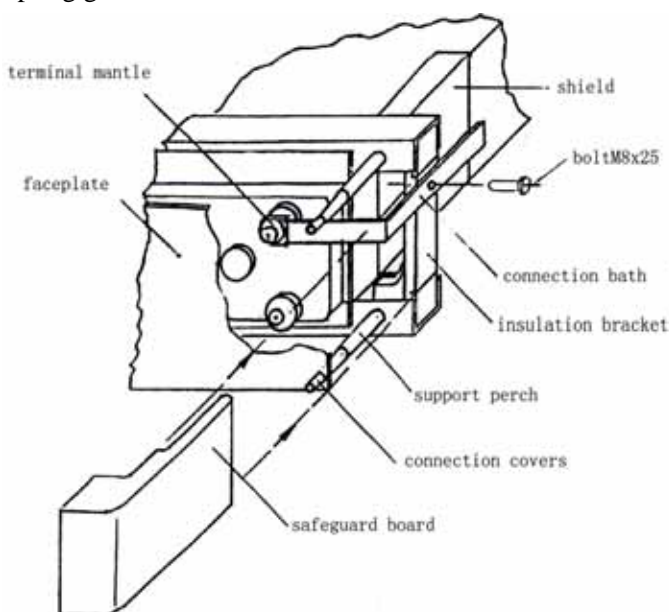

Fig 5
2.7 Installing battery safeguard board and shield (Fig 5)